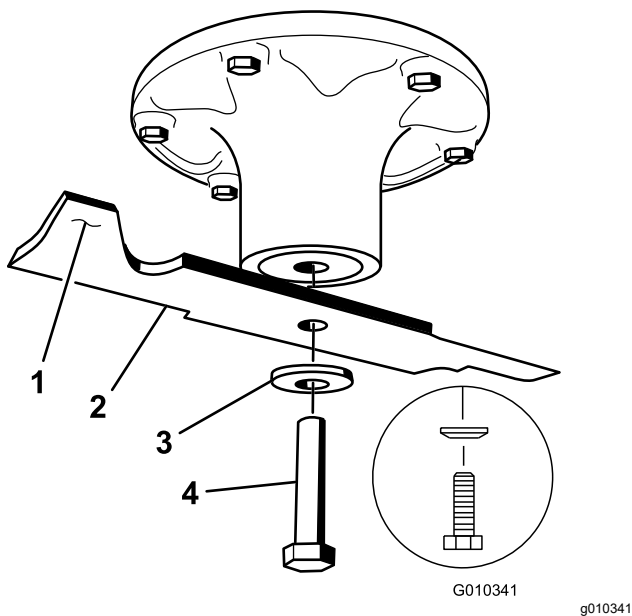

Figure 69
2. Remove the blade bolt, curved washer, and blade from the spindle shaft (Figure 69).